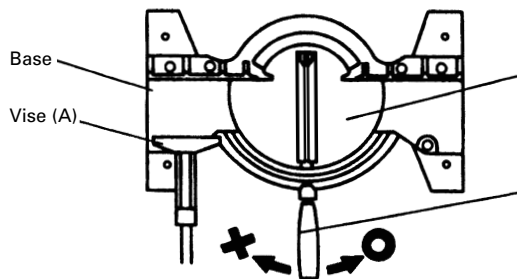
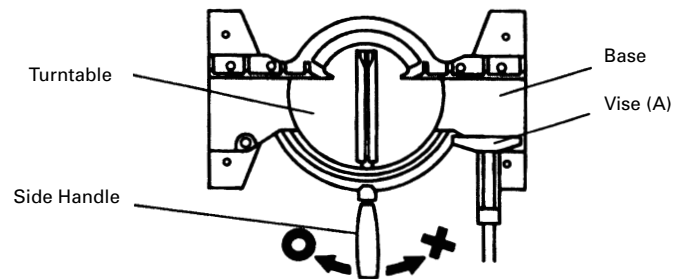

Fig. 17
Fig. 18
⚠ CAUTION: When vise (A) has been mounted on the left of the base as illustrated in Fig. 17, rotate the turntable to the right to start operation. When vise (A) has been mounted on the right of the base as illustrated in Fig. 18, rotate the turntable to the left to start operation.